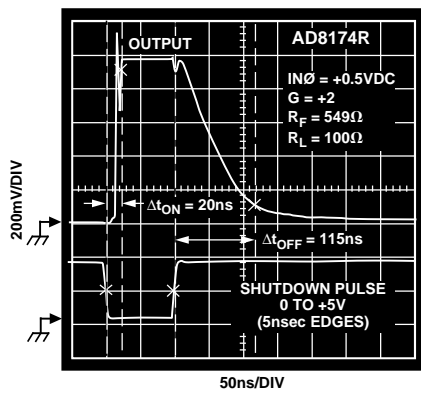

Figure 6. Shutdown Switching Characteristics
- AD8174 only. $\overline{\text{ENABLE}}$ pin is grounded. Shutdown (SD) pin is driven with 0 V to +5 V pulse (5 ns rise and fall times). State of A0 and A1 logic inputs determines which channel is activated (i.e., if A0 = Logic 1 and A1 = Logic 0, then IN1 input is selected). Set IN0 (or IN2) = +0.5 V dc, IN1 (or IN3) = -0.5 V dc, and measure transition time from 50% of SD pulse (+2.5 V) to 90% of the total output voltage change. In Figure 6, Δt_{OFF} is the shutdown assert time, Δt_{ON} is the shutdown release time.